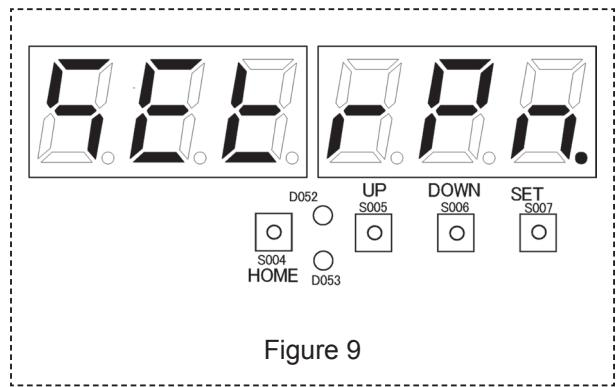

Figure 9
- 3) Press the SET (S007) key while “ **8.8.8.8.** ” is displayed. The forced engine revolution setting display “ **TEST** ” will appear (Figure 9).